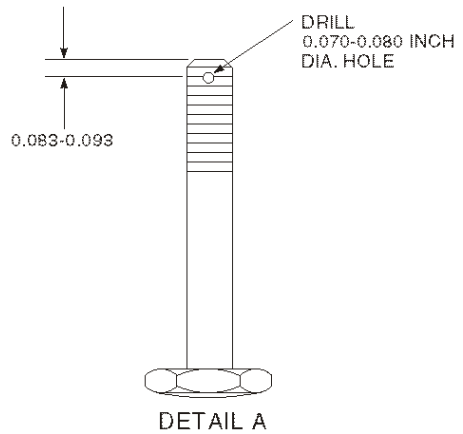

Figure C1B-032-1. Tailboom Support Strut Adjustable Diameter Bolt Inspection and Modification
- a. See Figure C1B-032-1 and note locations of aft cluster fittings and adjustable diameter bolts.
3. Using a drill press, drill 0.070-0.080-inch diameter hole through threaded portion of bolt, centered 0.083-0.093-inch from end of bolt as shown in Figure C1B-032-1.